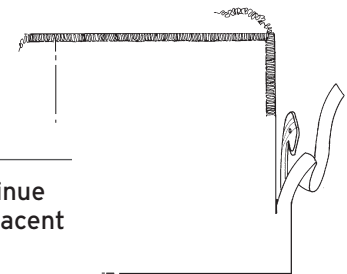

Fig. 21-8
2. Pivot the fabric and begin serging again on the adjacent edge. (Fig. 21-8)